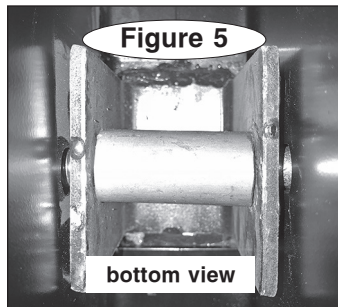

Figure 5
**a.** Insert one of the included 2" pipe spacers between the flanges of the center equalizer hanger (Figure 5).